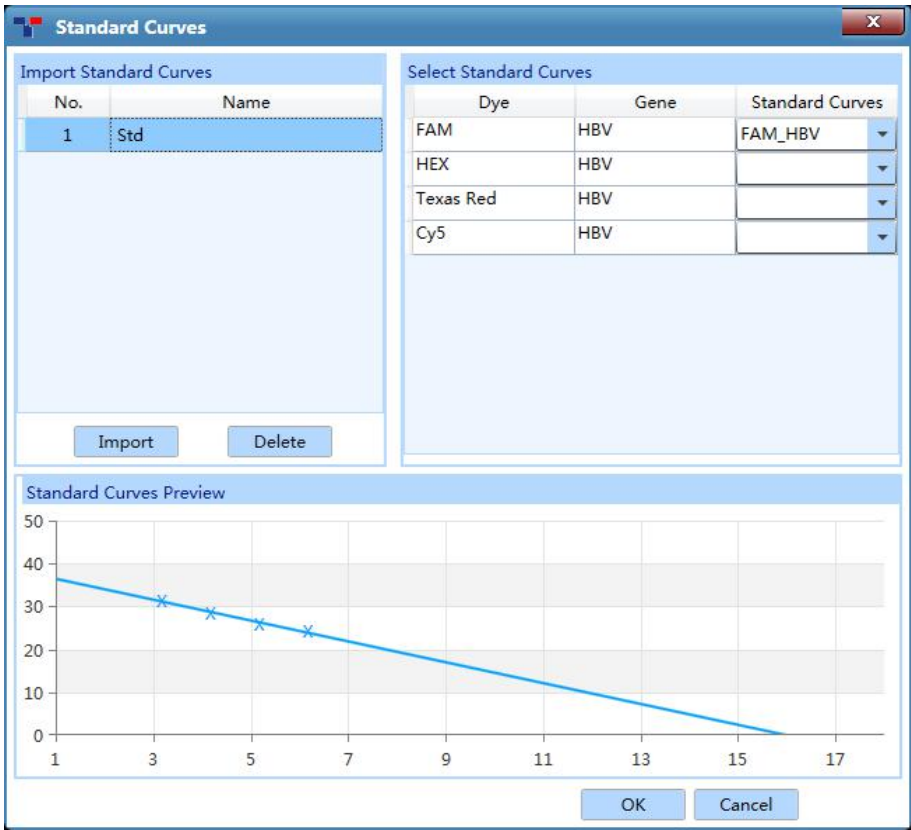

Figure D- 9.2a Abs Quant analysis interface - Standard Curves window
- **< Load Std Curve >:** click **< Load Std Curve >** and the application software will automatically pop up the standard curves window, which consists of **Import Standard Curves**, **Select Standard Curves** and **Standard Curves Preview** three parts, as shown in figure D-9.2a.